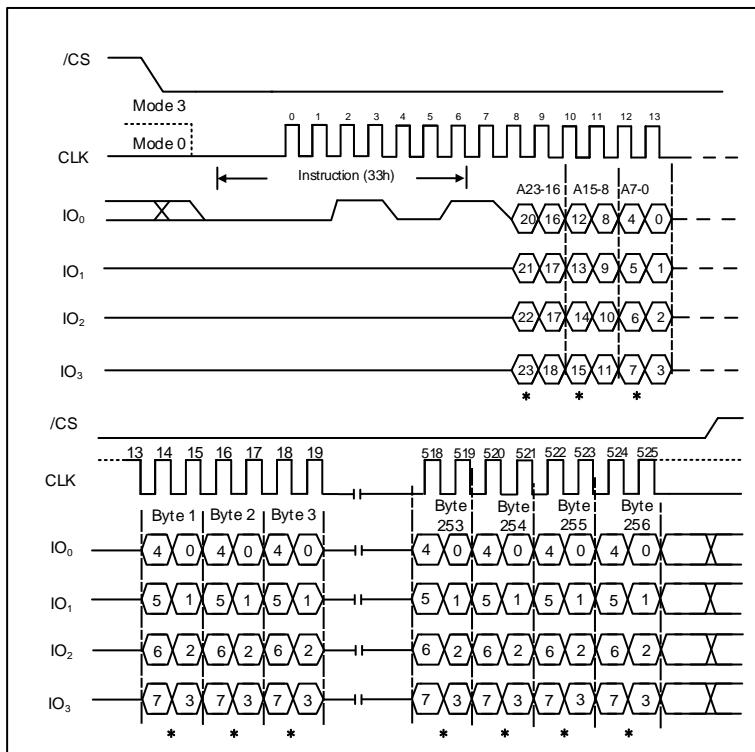

Figure 20. Quad Page Program Instruction (SPI Mode only)
The Quad Page Program (33h) instruction is similar to the Quad Input Page Program (32h) instruction except that address and data bits are both input and output through four pins IO0, IO1, IO2 and IO3. The Quad Page Program can improve performance for PROM Programmer and applications that have slow clock speeds <5MHz. Systems with faster clock speed will not realize much benefit for the Quad Page Program instruction since the inherent page program time is much greater than the time it take to clock-in the data. To use Quad Page Program the Quad Enable (QE) bit in Status Register-2 must be set to 1. The Quad Page Program instruction sequence is shown in Figure 20.